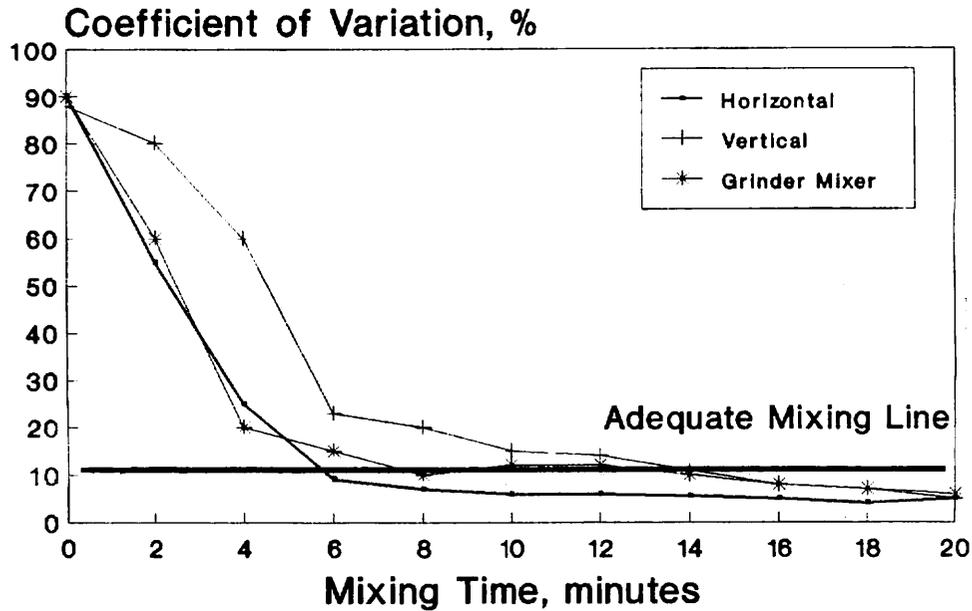

Figure 1. Effect of mixer type on time required to adequately mix feed.
**Feed Mixers.** Different types of mixers require different amounts of time to thoroughly mix feed. Horizontal mixers with either paddles or ribbons typically require about 5 to 10 min. to get below the recommended 10% coefficient of variation (Figure 1). Rotating drum or "cement" mixers also have been shown to be effective in adequately mixing feed and typically require 5 to 10 min. mixing time. Vertical mixers usually will require approximately 15 min. for optimum feed uniformity. Generally, single-screw vertical mixers require longer mixing times than twin-screw mixers; however, there appears to be a great deal of variation in mixing time of vertical mixers. Portable grinder mixers fall into the same category as single-screw vertical mixers and require at least 15 min to adequately mix a batch of feed. However, usual mixing time of these mixers is the length of time required to get to the feeder or to grind the grain portion of the diet.